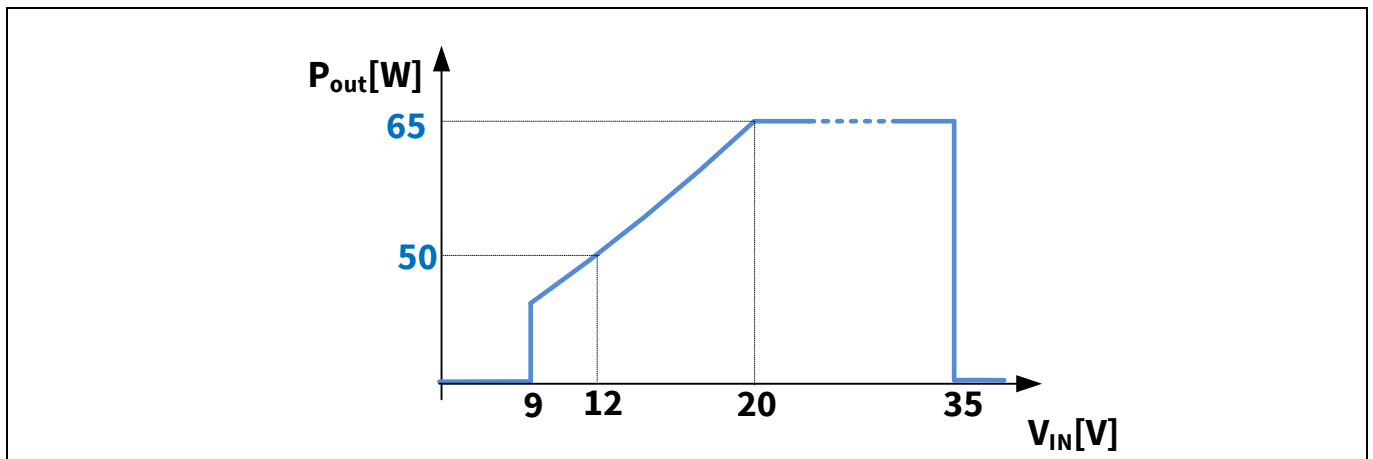

Figure 15 Output power derating curve ($T_A = 25^\circ\text{C}$)
5. Connect a POWER supply 9 V to 30 V (see power derating profile): see Figure 15
The TLD5542-1CHG_SHIELD has very high efficiency, so it can deliver up to 65 W at the output without a heat sink at $T_A = 25^\circ\text{C}$, $V_{IN} = 20\text{ V}$ (see Figure 15 for power-derating curve).